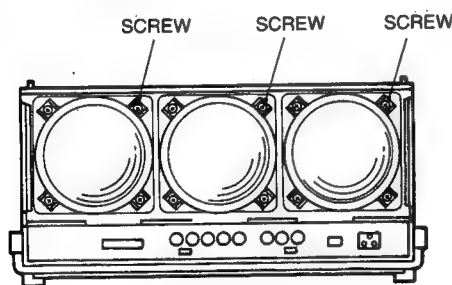

Fig. 40
- (7) After mounting the SPACERS, re-install the three LENS units, (4 screws each) [Fig. 40]